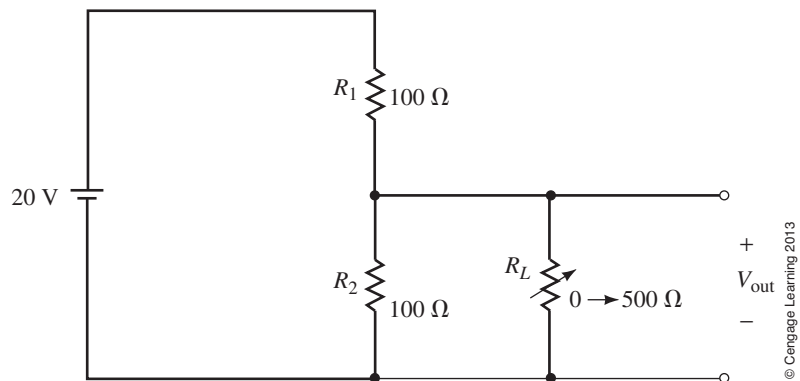

FIGURE 7-72
33. Given the circuit of Figure 7-72, calculate the output voltage V_{out} when $R_L = 0\ \Omega$, $250\ \Omega$, and $500\ \Omega$.